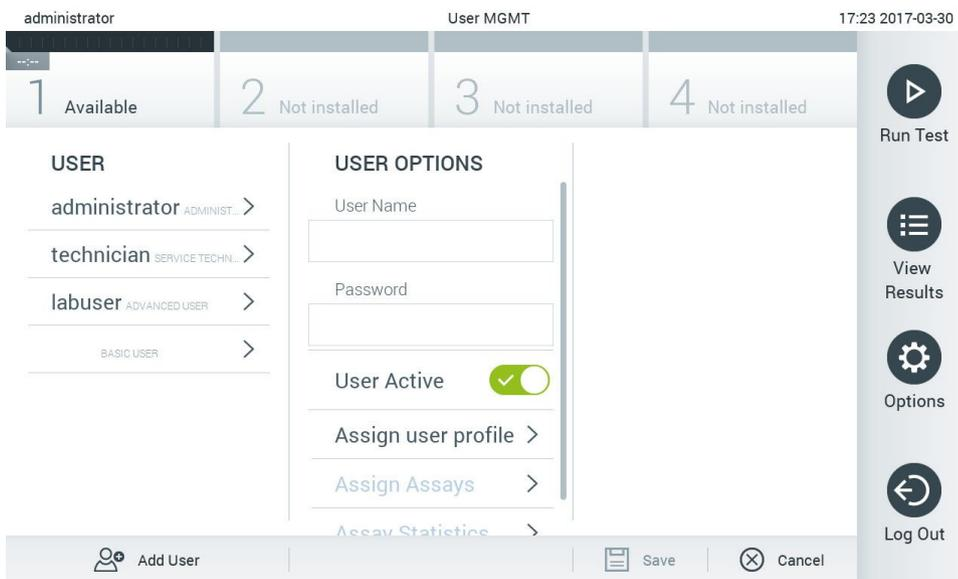

Figure 64. Adding a new user.
1. Press the **Options** button and then the **User Management** button to configure users. The **User Management** screen appears in the content area of the display (Figure 64).